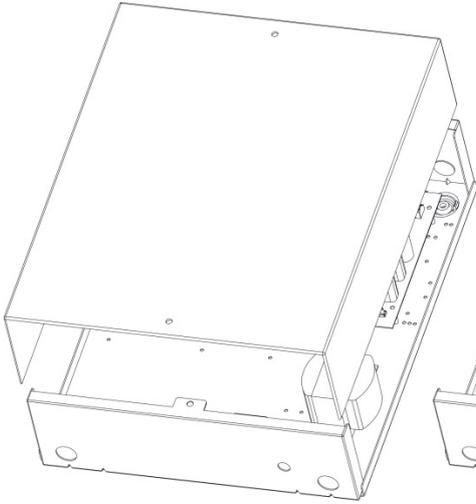

Figure 1.
1. Unscrew and remove the cover of the EURO control panel (Figure 1).